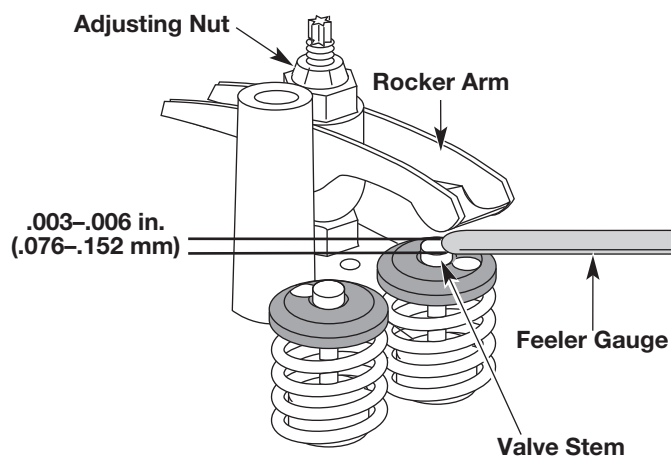

Fig. 34
7. Slide the feeler gauge between the rocker arm and the top of each valve stem. Measure the clearance between the valve stem and rocker arm (Fig. 34). Measure both the intake and exhaust valves.
- a. Turn the adjusting nut using a 5/16 inch (8 mm) wrench or nut driver (Fig. 34).